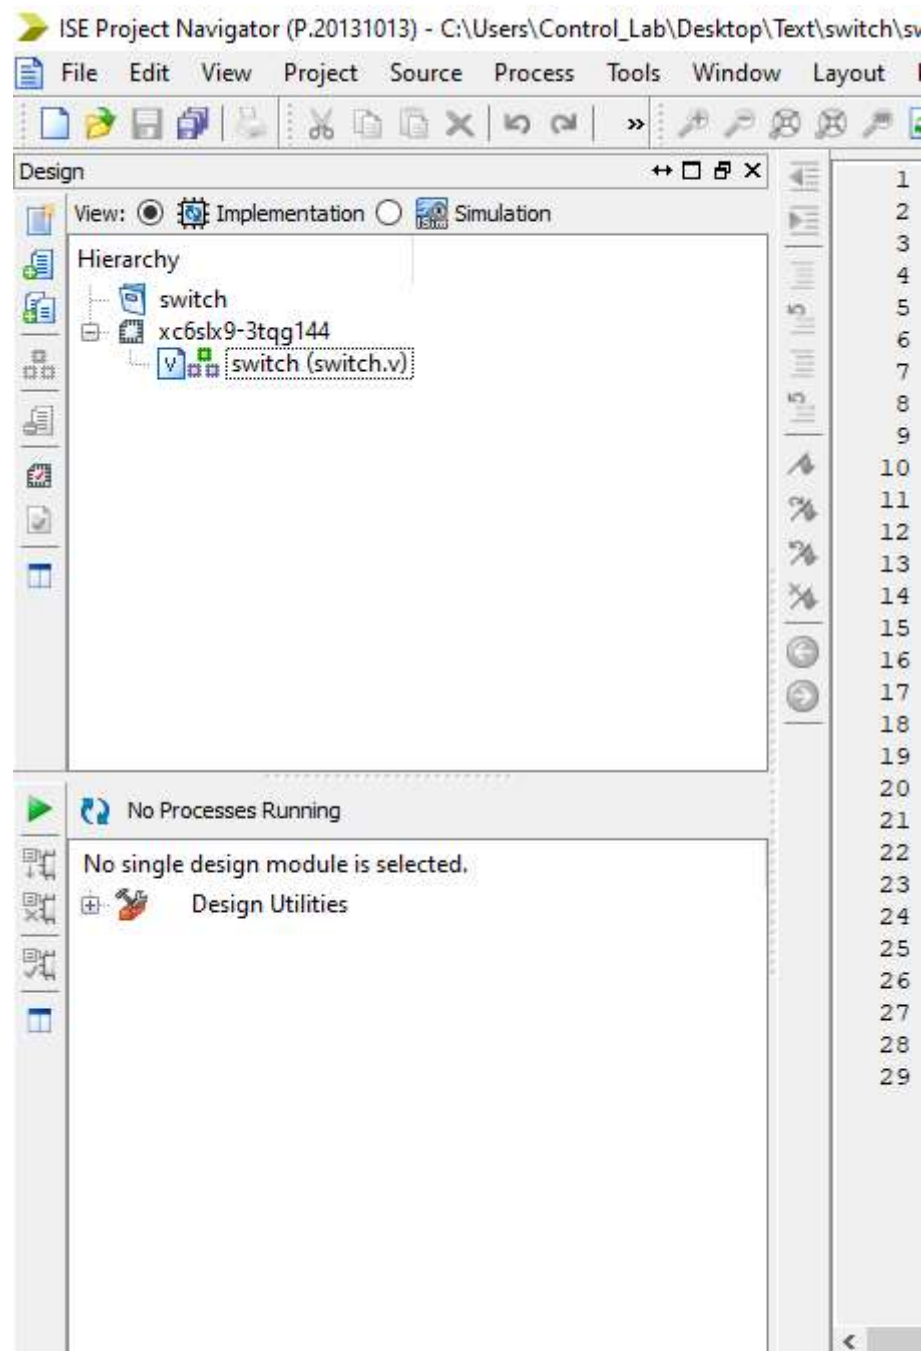

Fig 1.12: Hierarchy window
13. After completing the code next step is to check its syntax and functionality. For this, select **Simulation** Button in the **Hierarchy window** on the **left pane** as shown in the Fig 1.12.